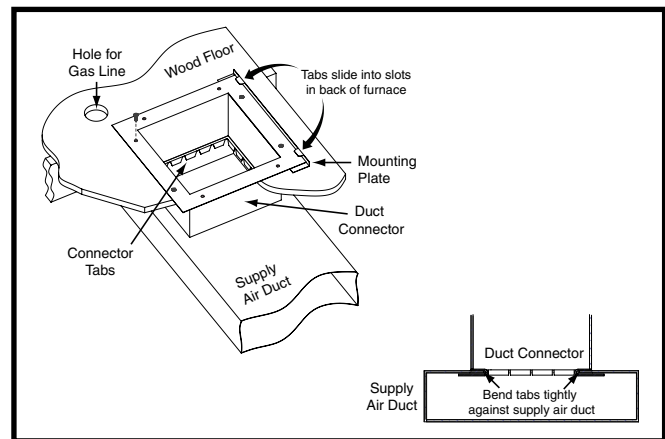

Figure 10. Finger Tabbed Duct Connector
2. Mark the cut-out area on the supply air duct by tracing around the connector tabs (Figure 10, page 15) of the duct connector.
5. Install the mounting plate (Figure 10) under the back side of the duct connector. Align the screw holes in both components.